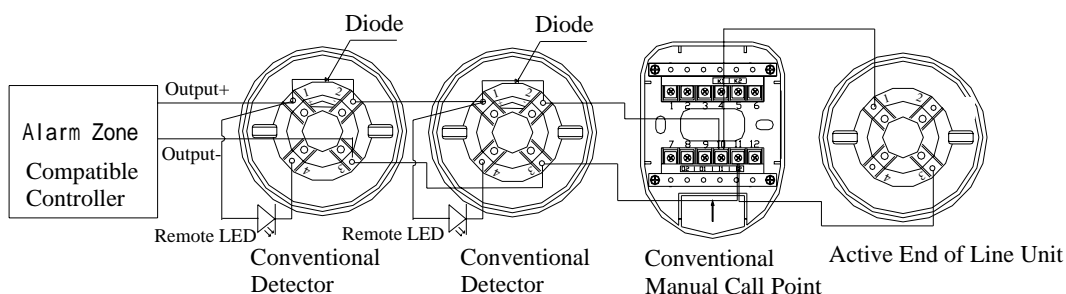

Fig. 5 System composition
- 1) When the active end of line unit is used as the detector base, that is to install a conventional detector on it, the system composition is shown in Fig.5.